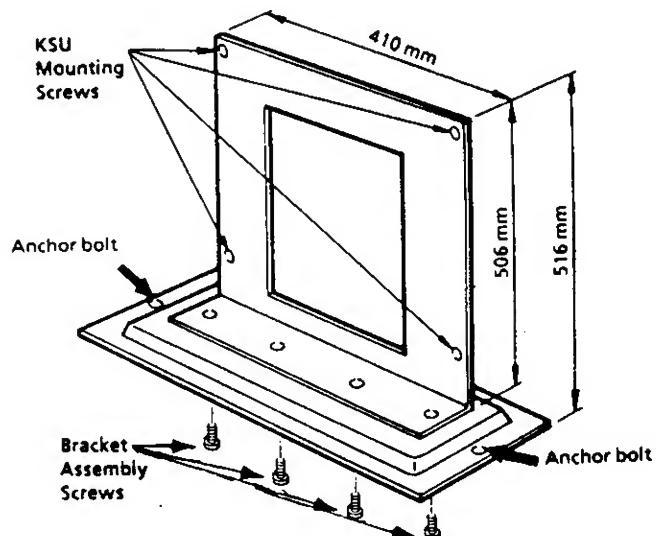

Figure 200-17 Floor mounting unit (FMU-Z)
- Assembly of the floor mount bracket is required. Attach the base plate to the vertical bracket using the four screws provided. Insert the screws from the bottom as shown in Figure 200-17.